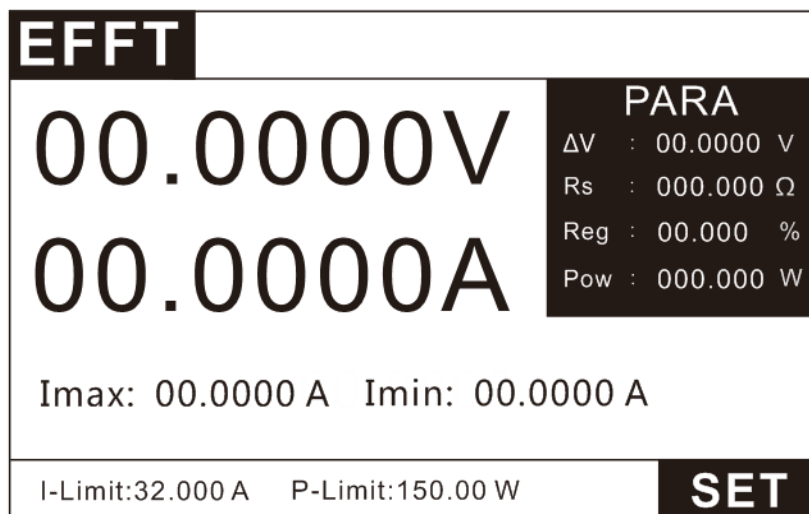

Figure 3.11 EFFT mode test Page
1. Press the key **MODE** to enter the mode selection page, press the up and down keys to select EFFT, and press the key **ENTER** to enter the EFFT test interface, as shown in Figure 3.11.
2. In Figure 3.11, press the key **SET** to enter the setting interface